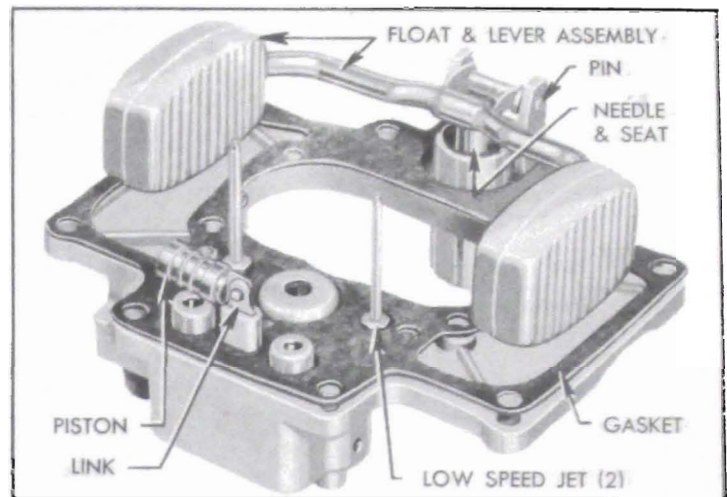

Figure 3-29—Parts Assembled on Bowl Cover
7. Swing vacuum piston $\frac{1}{4}$ turn to remove it from piston link then remove link from bowl cover. See figure 3-29.
15. After completing float adjustments, carefully remove float assembly, install both low speed jets and a new bowl cover gasket and re-install float assembly. See figure 3-29.